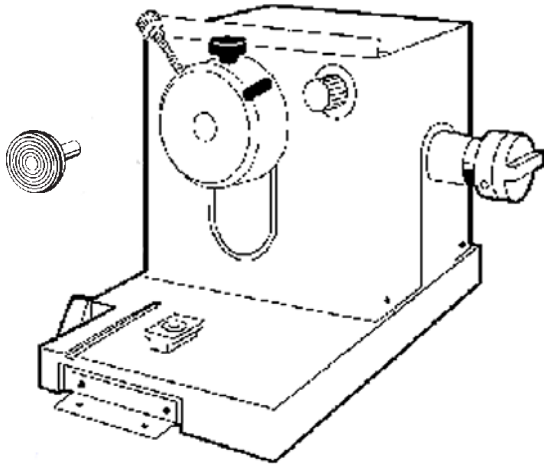

Fig. 18
- Once the specimen is frozen, insert the specimen disc in the specimen head (**Fig. 18**) and start sectioning.